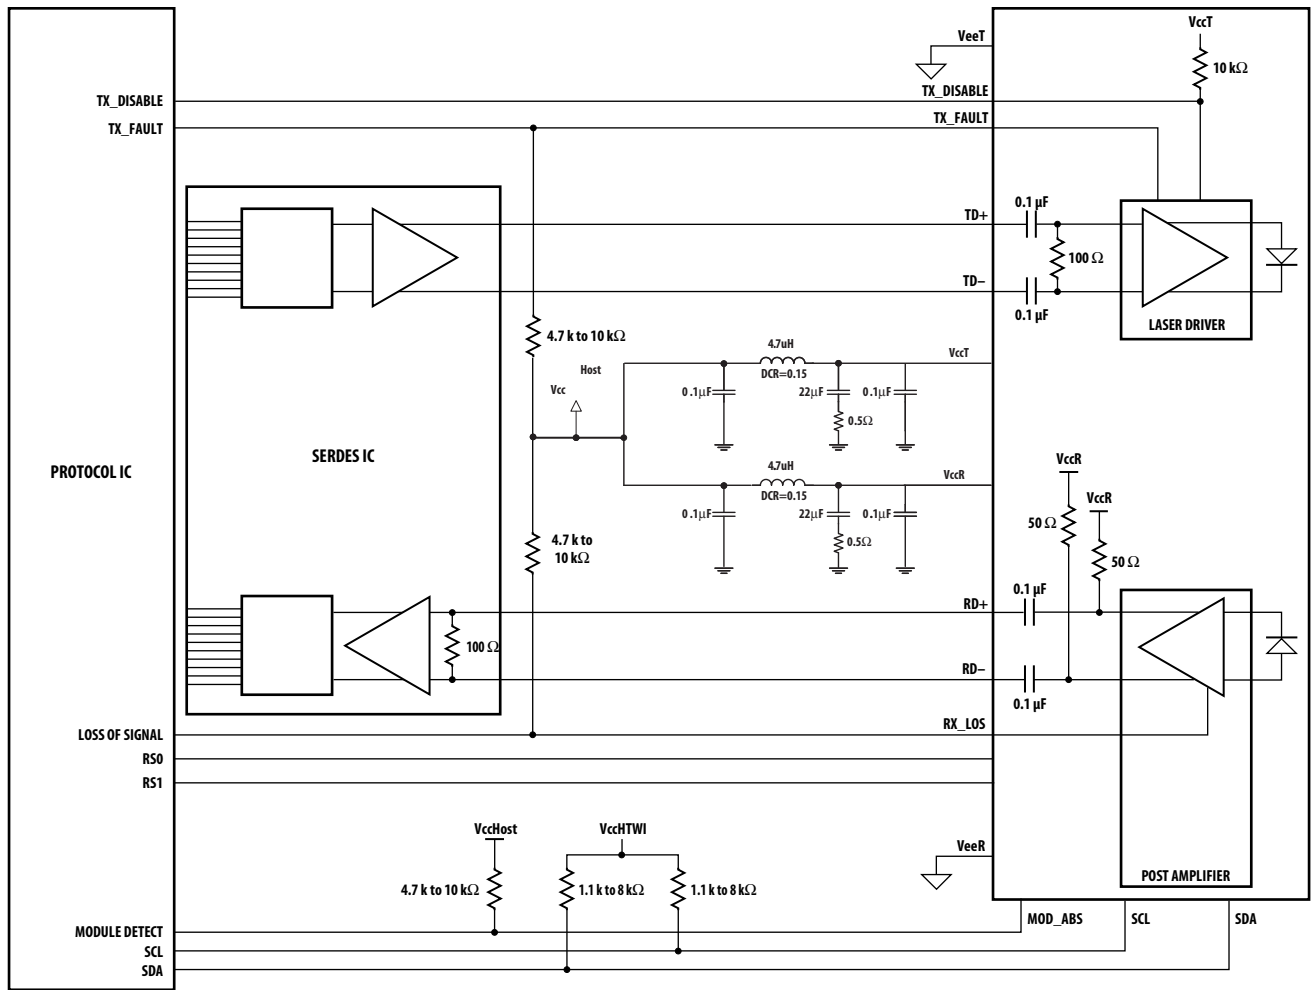

Figure 2. Typical application configuration
Figure 2 depicts the recommended interface circuit to link the AFBR-703SDZ to supporting physical layer ICs. Timing for the dedicated SFP+ control signals implemented in the transceiver are listed in Figure 6.
2. This is an open collector/drain output that on the host board requires a 4.7 k Ω to 10 k Ω pullup resistor to VccHost. See Figure 2.